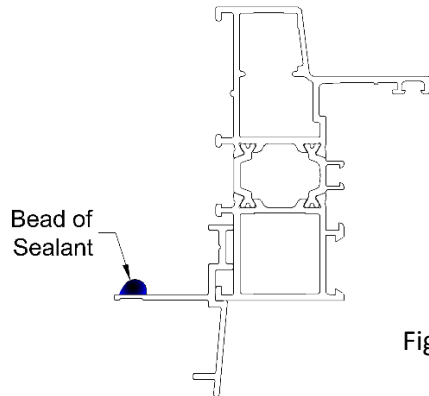

Figure 2a
4. Apply a continuous bead of sealant on the nail fin (interior side as shown in figure 2a) around the perimeter of the head and jambs as shown in figure 2b. (Sealant should conform to AAMA 802.3-16 and 803.3-16)